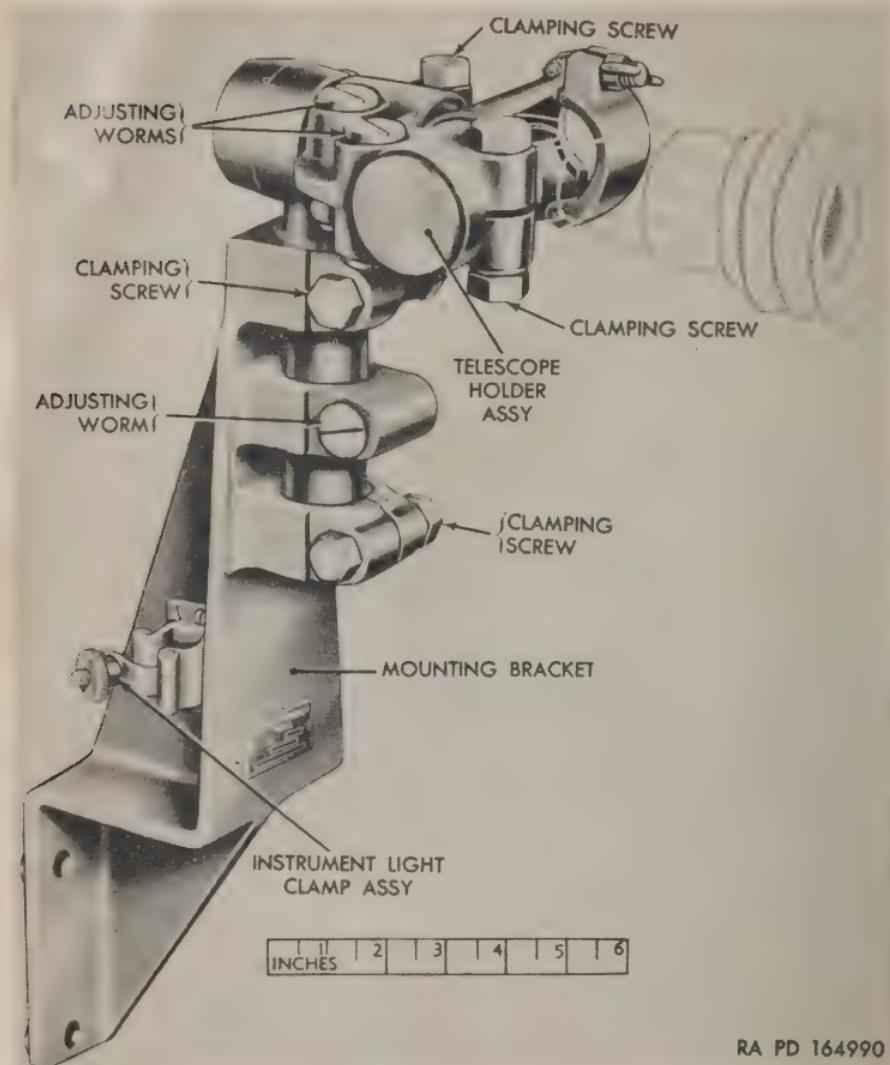
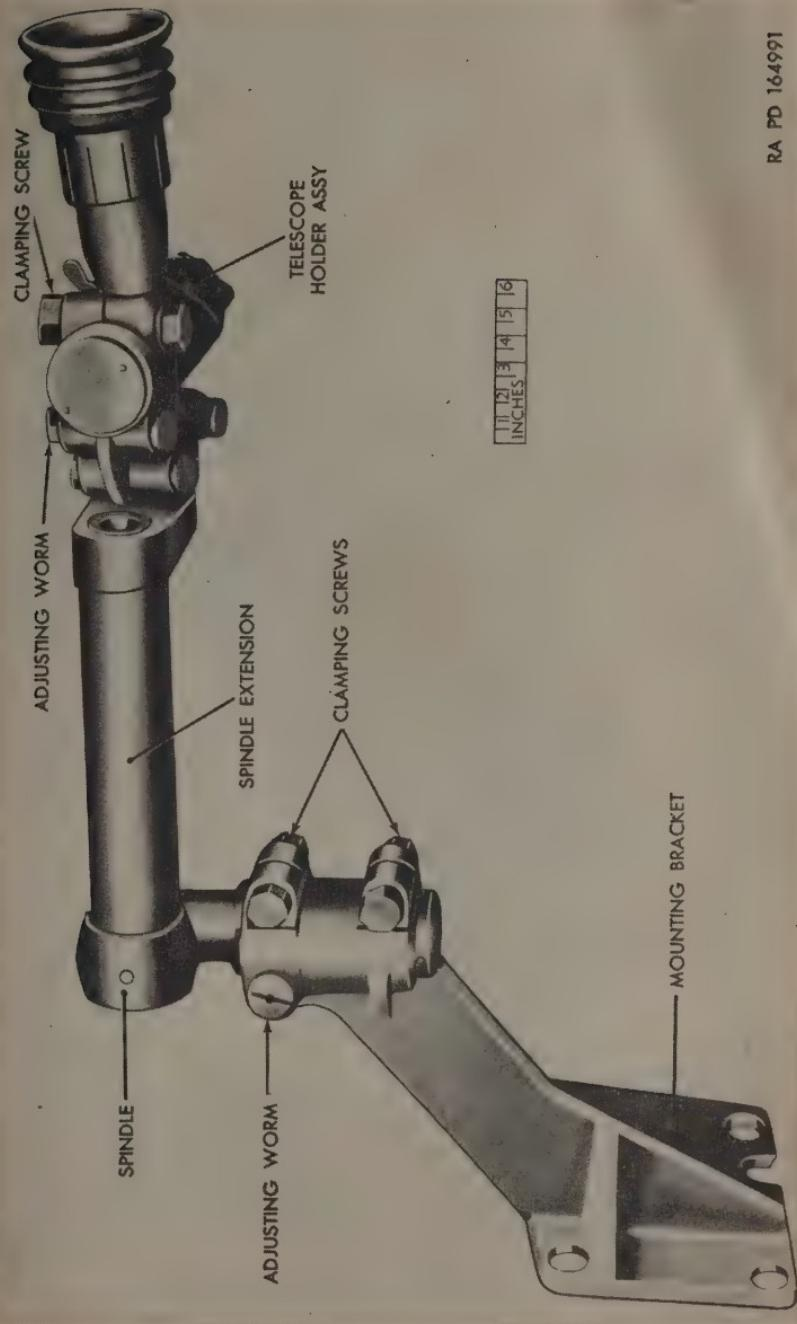
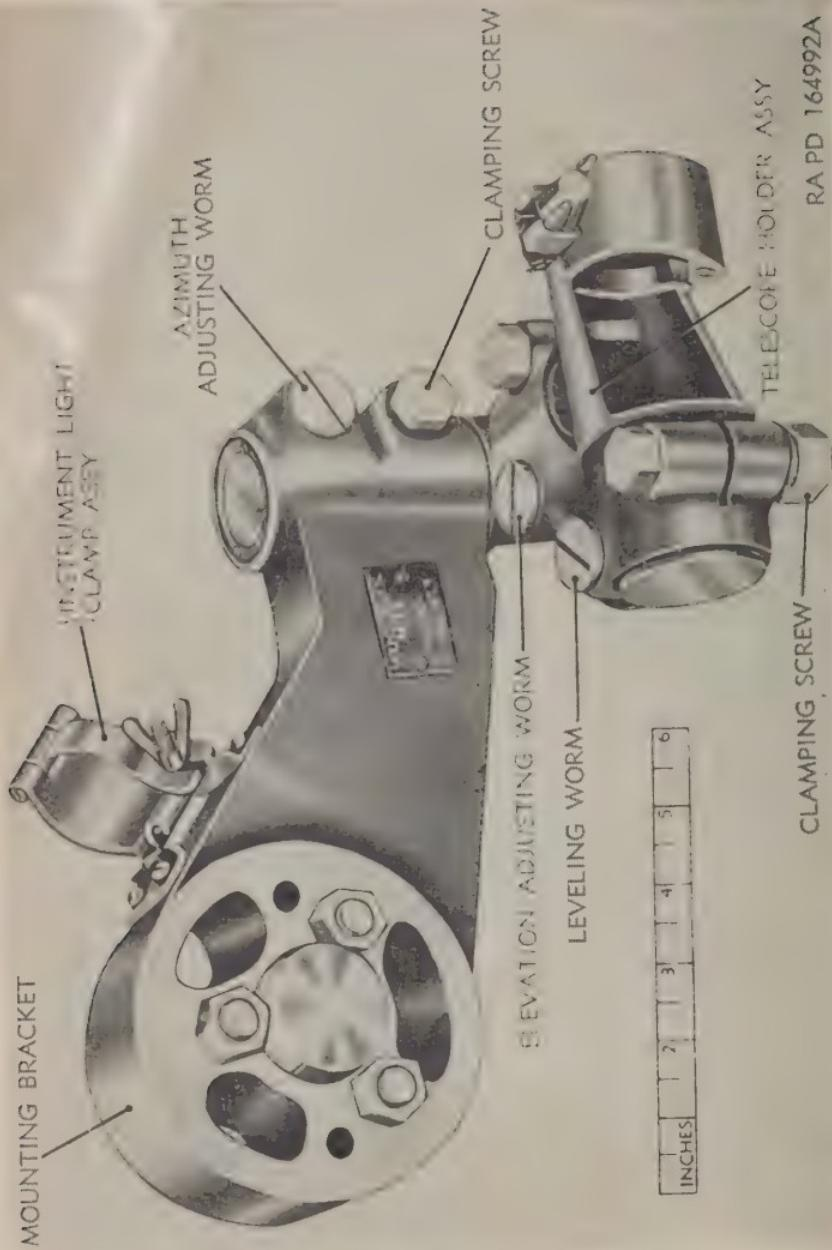

Figure 8. Telescope mount M46—assembled view.
Figure 9. Telescope mount M54—assembled view.
Figure 10. Telescope mount M71—assmblled view.
- (3) The telescope mounts M31 (fig. 7), M46 (fig. 8), M54 (fig. 9), and M71 (fig. 10) are similar to the M28, except for the length and position of the spindle.
c. Clamping Screws. The clamping screws (fig. 10) will open and close freely without undue looseness or friction. When the clamping screws are tight, they will lock the worms firmly in position.
e. Adjusting Worms (Screws on Telescope Mount M42). With the locking screws loose, the adjusting screws on the M42 (fig. 11) and the adjusting worms (fig. 10) on the other mounts will turn freely throughout their entire range of movement.